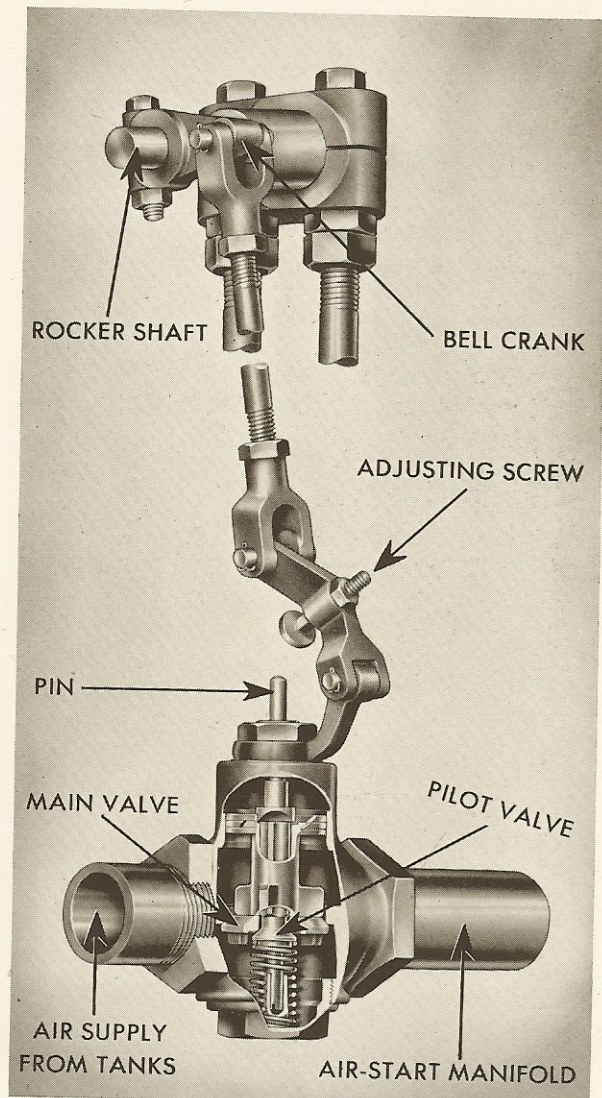

FIGURE 18-6
12. THE MASTER AIR VALVE: Figure 18-6 shows the master air valve and the link-